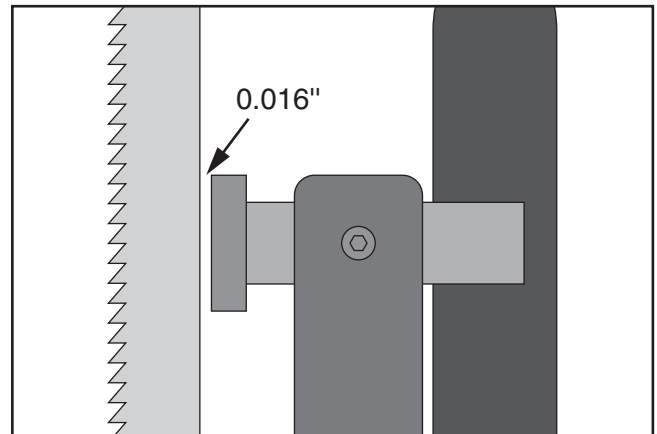

Figure 47. Bearing positioned approximately 0.016" away from back of blade.
3. Position support bearing approximately 0.016" away from back of blade, as illustrated in **Figure 47**.
To prevent damage to the blade teeth as the blade deflects back while cutting, the guides must be behind the teeth gullets the same amount as the support bearing is behind the blade, which is typically about 0.016" (see **Figure 47** on the previous page for an illustration of this relationship).